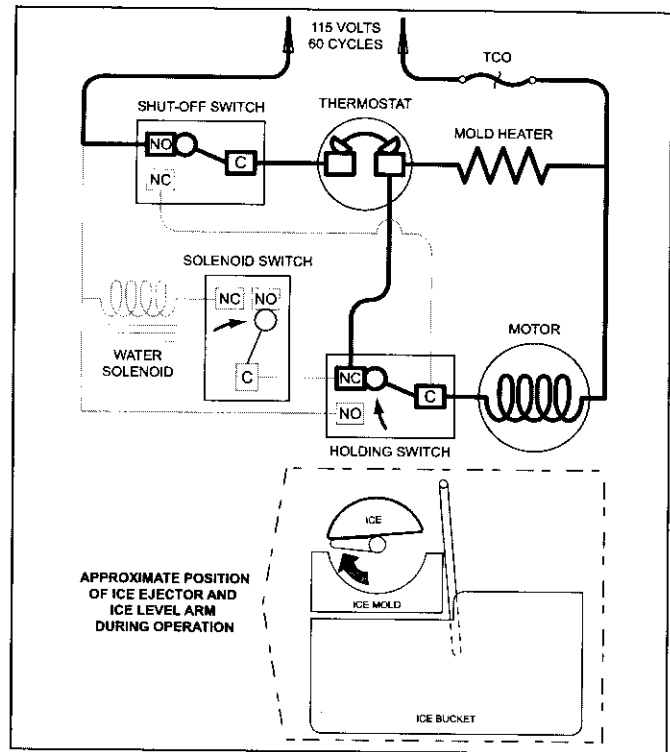

Figure 6-7. End of First Revolution
**End of First Revolution (See Figure 6-7)**